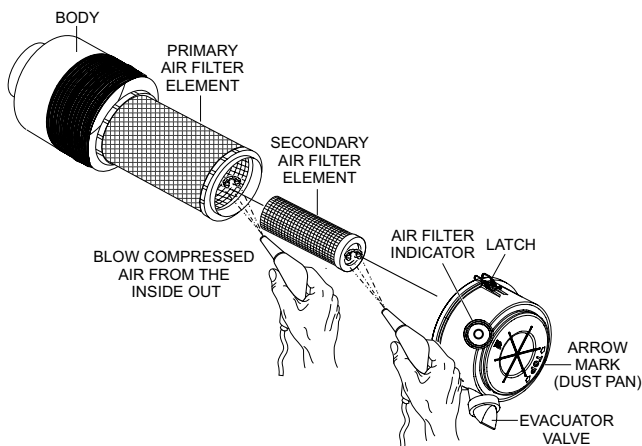

Figure 81. Air Cleaner
Every 250 hours: Remove the air cleaner element (Figure 81) and clean the heavy-duty paper element with a light spray of compressed air. Replace the air cleaner as needed.
1. Release the latches (Figure 81) that secure the cover to the air cleaner body.
6. To clean the primary element (paper air filter) as referenced in Figure 81, tap the filter element several times on a hard surface to remove dirt, or blow compressed air, not to exceed 30 psi (207 kPa, 2.1 kgf/cm²), through the filter element from the inside out.